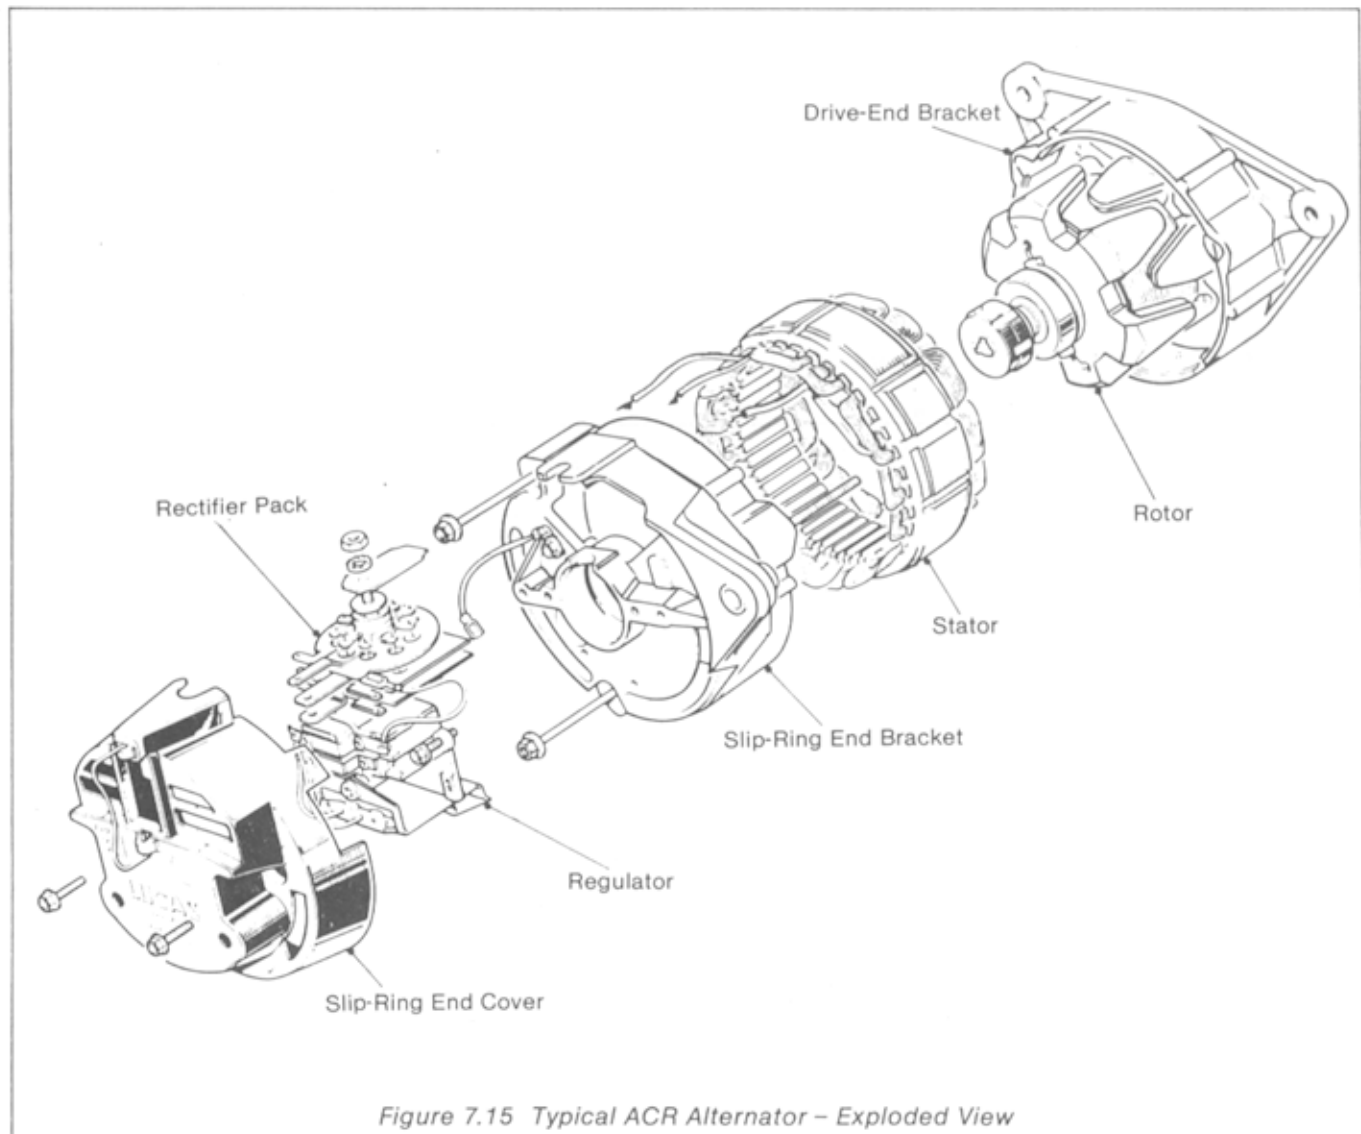

Figure 7.15 Typical ACR Alternator - Exploded View
7.30 A typical ACR alternator as shown in Figure 7.15 consists of: